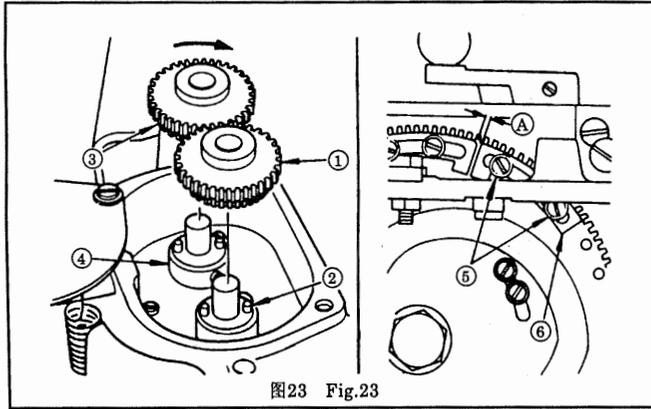

图23 Fig.23
**\* 齿轮的安装 图23**
- 1) 先将齿轮①插进蜗轮轴里和靠近操作者一侧的交换齿轮挡圈②上的定位销内。
- 2) 再将齿轮③一边按箭头方向旋转, 一边插进离操作者远的交换齿轮挡圈④上的定位销内和送料凸轮传动轴里。
**\* Attaching the spur gears to their shafts** Fig.23
- 1) Push gear ① into the shaft so that it is securely fixed by the pin on gear bushing ② located nearer to an operator.
- 2) For installing gear ③ on the pin of rear gear bushing ④, push gear ③ into the shaft while turning it in the arrow direction.